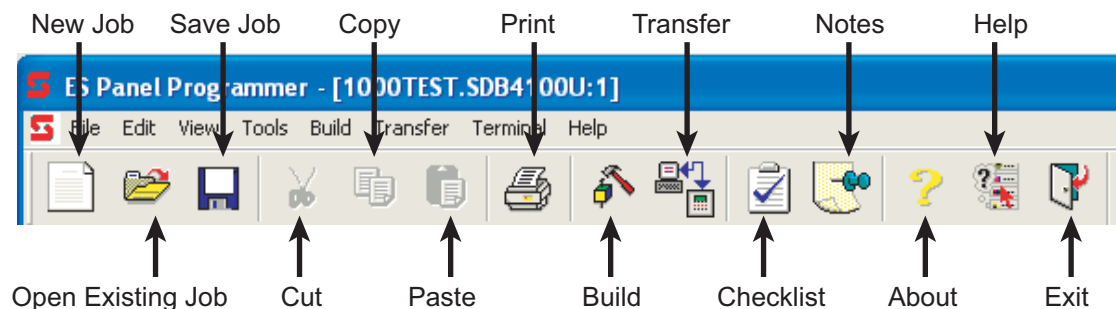

Figure 2-4. . Icon Bar
3. Click **Yes** to accept the agreement and to continue with the installation. The screen in Figure 2-4 appears, prompting you to specify the destination folder to which the programmer files should be installed.
The icon bar contains a set of icons that allow you to quickly perform basic tasks, such as creating a new job or building a job. Figure 2-4. shows the location of the icon bar and identifies the function of each icon.